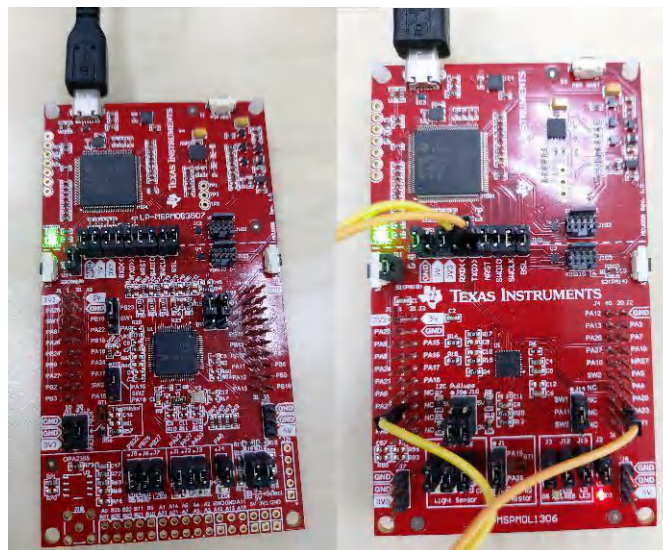

Figure 3-7. LaunchPad Kit Connection (Left: LP-MSPM0G3507, Right: LP-MSPM0L1306)
1. Connect the target device and the XDS110 to the PC. When using the XDS110 integrated in the LaunchPad kit, connect the micro USB cable to the PC as Figure 3-7.